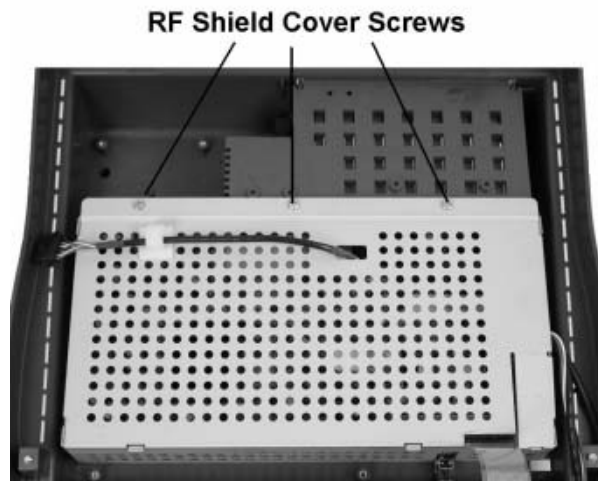

Figure 2-2: Removing the RF Shield
5. Place the top cover assembly face down on your work surface. Refer to Figure 2-2 and remove the screws that fasten the RF shield in place.